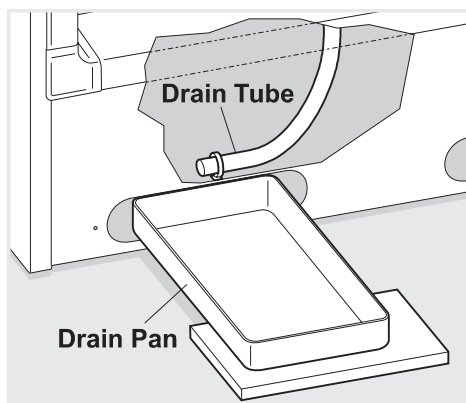

Figure 1
- Place a shallow pan under the drain tube. Defrost water will drain out. Check the pan occasionally so water does not overflow (see figure 1).